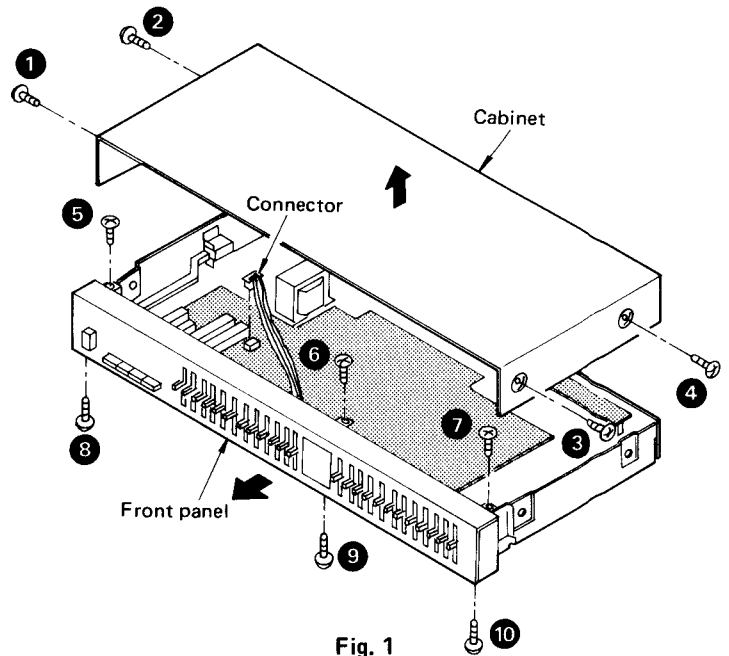

Fig. 1
1. Remove the setscrews ① ~ ④ in Fig. 1 to remove the cabinet.
2. Remove the 6 setscrews (Fig. 1 : ⑤ ~ ⑪) of the front panel.
2. Remove the power supply knob and 4 setscrews (Fig. 1 : ⑪ ~ ⑭) of the front plate.